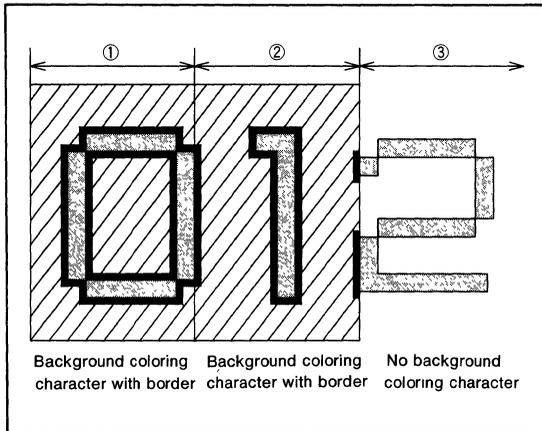

Fig. 44 Notice of character background color function
2 : When the characters (① and ③ in Figure 44) have the dots which are displayed adjoining a character (② in Figure 44) whose display type is the background coloring with border, the border of the adjoining characters (① and ③ in Figure 44), bear no relation to the display type; are displayed in the background area (② in Figure 44)